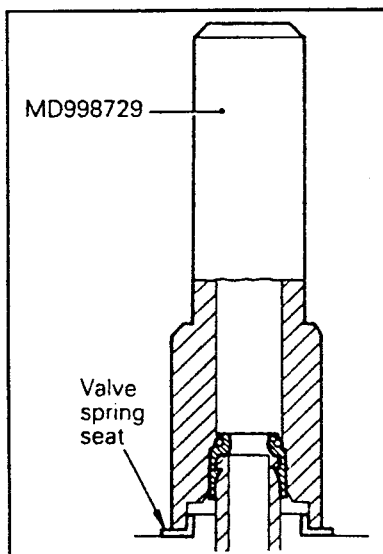

Fig. 15.13. — Fitting a valve stem oil seal.
- Place the valve spring seats over the valve guides and fit the valve stem oil seals. To avoid oil leaks, a special tool, as shown in Fig. 15.13 should be used for this operation. Place the seals over each guide and carefully tap down with the hollow tool. Never attempt to use the old valve stem seals.